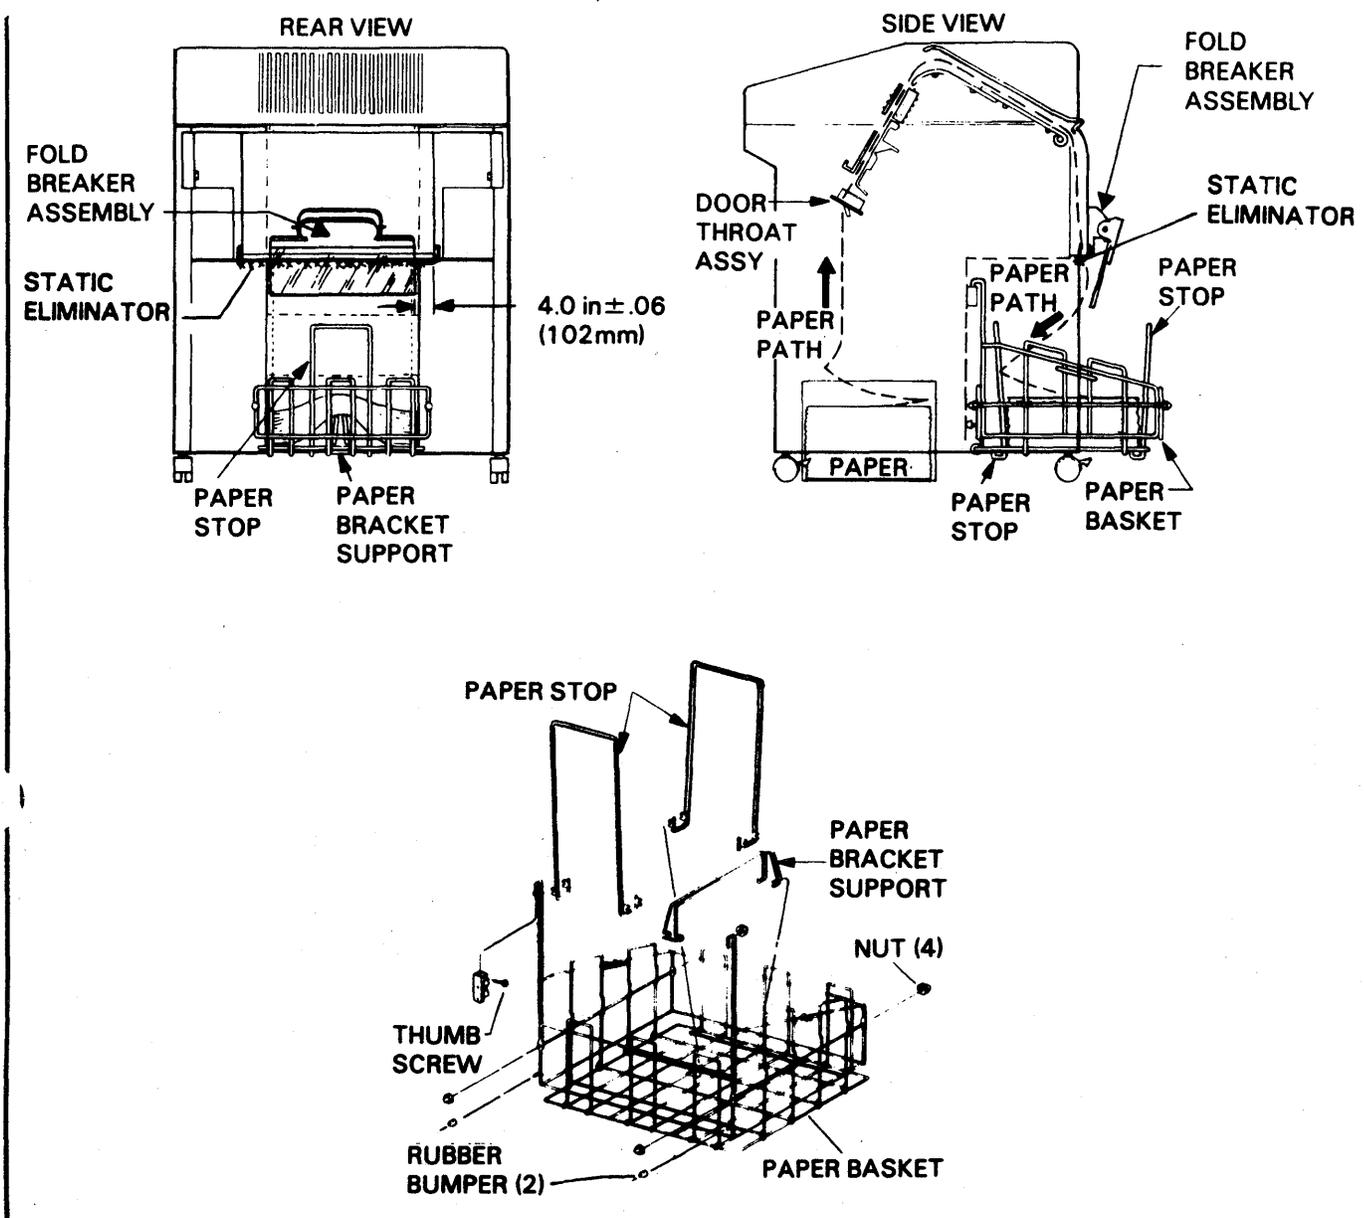

FIGURE 1-4. PAPER BASKET INSTALLATION AND SET-UP
| | FIGURE 1-4. PAPER BASKET INSTALLATION AND SET-UP | 1-5 |
4. **For units without front doors:** Install and set up the paper platform or paper basket if provided. See Figure 1-4. Read Paper Basket Installation for the explanation of the basket accessories. The paper platform is installed such that the wires that run perpendicular to the edge of the paper are facing up. This allows the paper to slide along the wires when the paper contacts the paper platform. If the paper platform is installed up-side-down, the paper will catch on the wires as it enters the paper platform and will cause stacking problems.
Paper Basket Installation (See Figure 1-4)